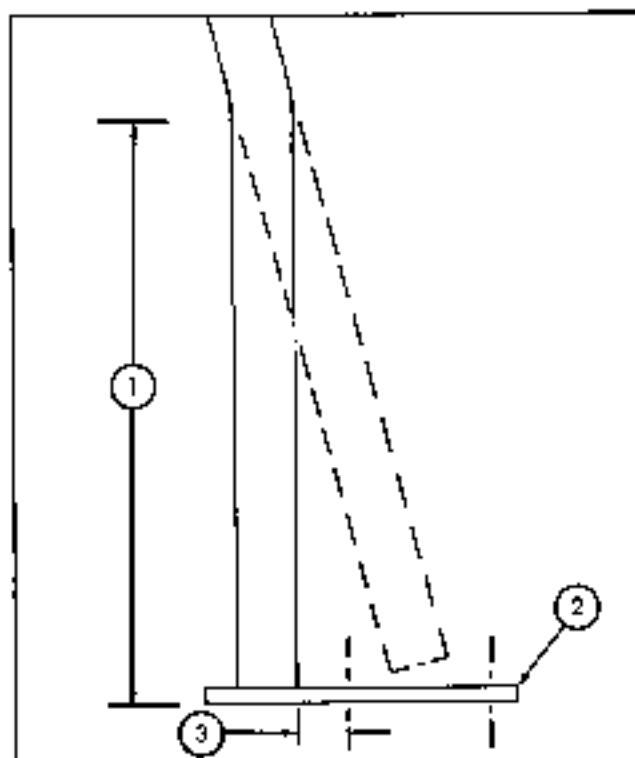
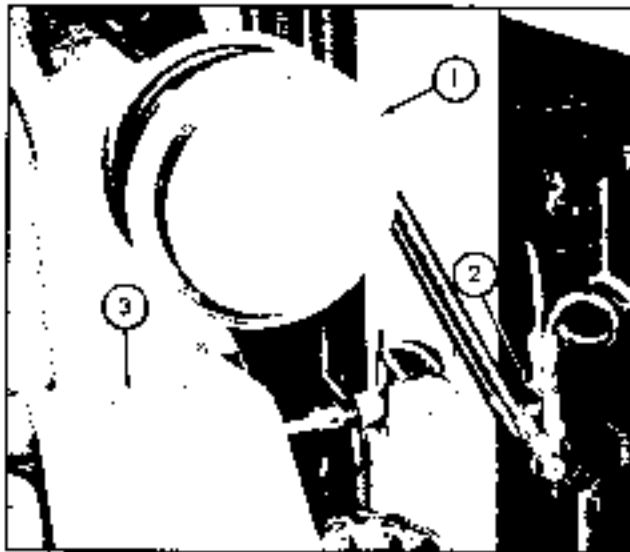

Fig. 155. Overhead guard support
Fig. 157. R.H. reel and junction block
k. If the lift truck has an overhead guard, it will be necessary to modify the front supports for the guard before the reels are installed. Cut off the mounting plates on the front legs. Weld new mounting plates to legs, using dimensions shown in Fig. 155 to locate. Bend legs back at point shown so bolt holes in plates line up with holes in frame. (See Fig. 157.)
m. Install the junction block as shown in Fig. 157.